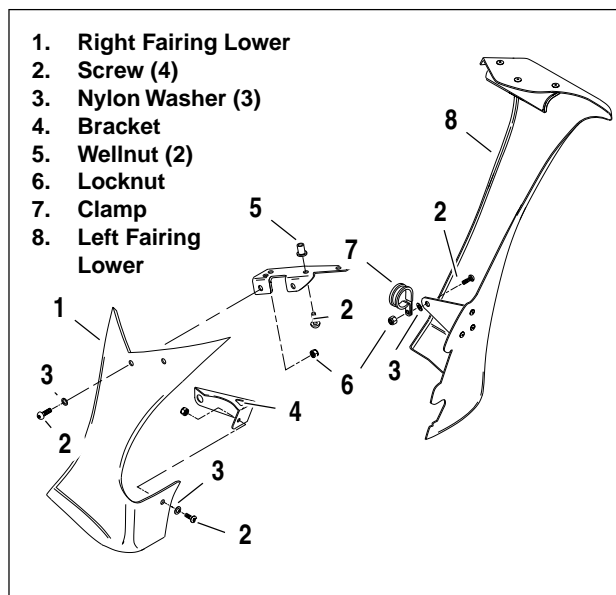

Figure 2-126. Fairing Lower
1. See Figure 2-126. Remove bottom screw (2), nylon washer (3) and locknut (6) from bracket (4).
2. Remove two upper screws (2), nylon washers (3) and locknuts from fairing. Remove fairing.
2. See Figure 2-126. Remove screw (2), clamp (7), nylon washer (3) and locknut (6) from left fairing lower (8).
3. Disengage clamp (7) from metal bracket on fairing lower.
1. See Figure 2-126. Attach fairing lower (1) to bracket (4) with screw (2), nylon washer (3) and locknut (6).
2. Install two screws (2), nylon washers (3) and locknuts (6) to air cleaner cover bracket.